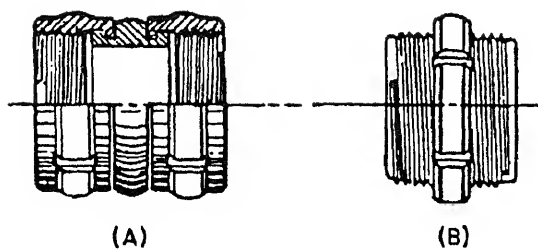

Figure 15-27.—(A) Double female coupling; (B) double male fitting.
Figure 15-27, view (A), shows the double female coupling, and view (B), the double male fitting. These fittings, 2 1/2 or 1 1/2 inches in diameter, are used to connect two male or two female hoses to make jumper line assemblies.